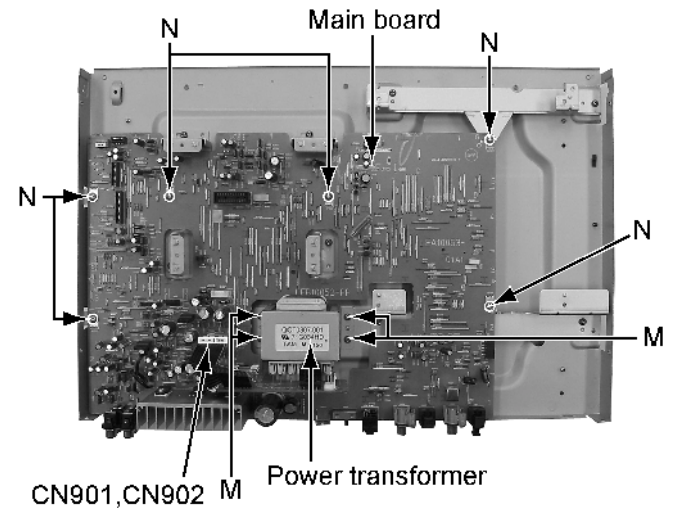

Fig.14
2.1.7 Removing the main board and power supply board (see Fig.14)